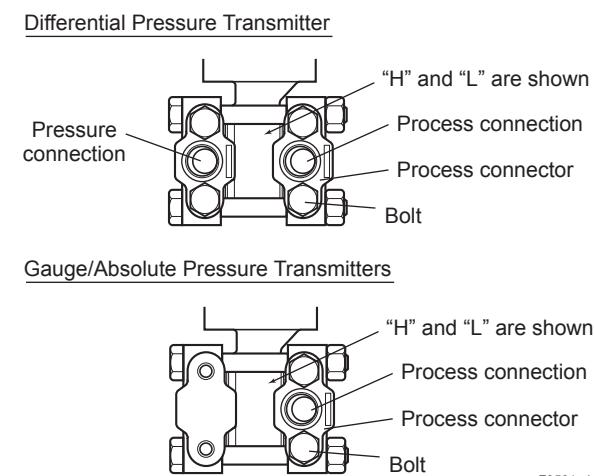

Figure 5.1 "H" and "L" Symbols on a Capsule Assembly
(1) Check the High and Low Pressure Connections on the Transmitter (Figure 5.1)